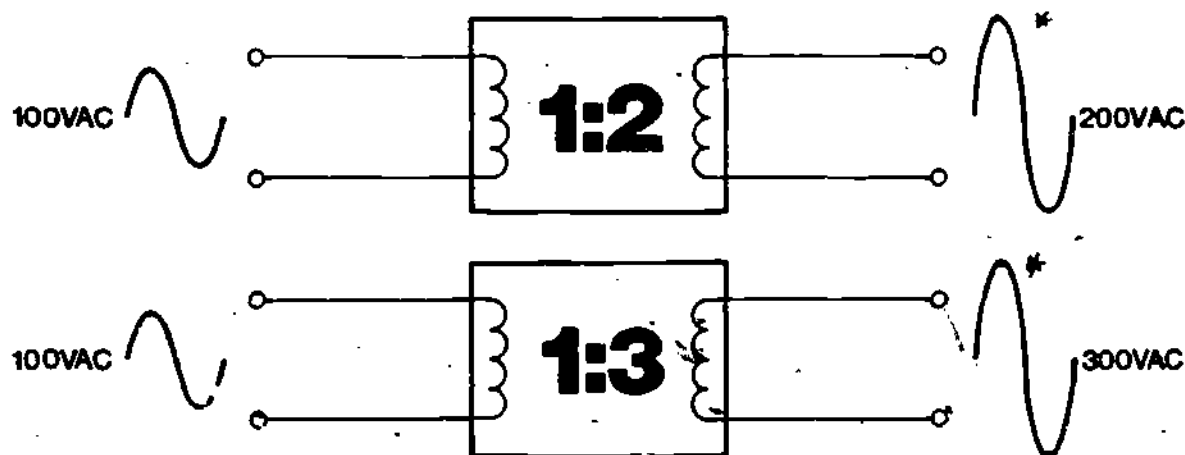

figure 1
1. You know AC voltage can be stepped up (increased) by use of a transformer and that the amount of increase depends on the ratio of the primary winding to the secondary winding. See Figure 1.